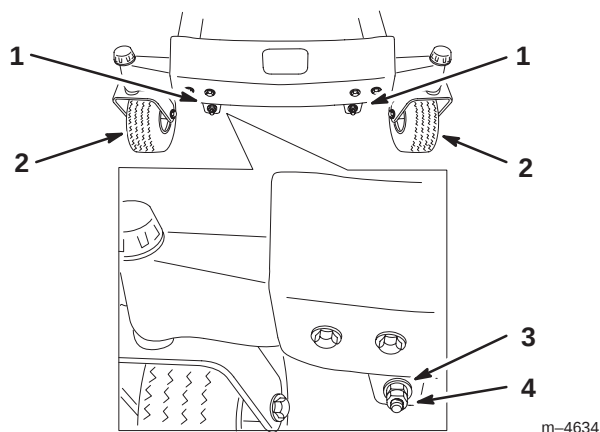
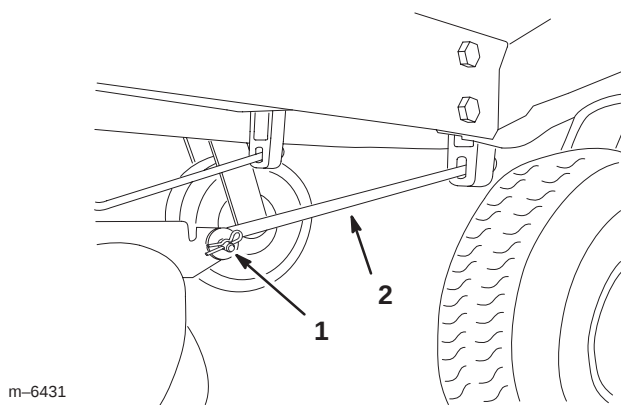

Figure 43
Figure 45
10. To adjust the front-to-rear blade slope, remove the locknuts and then rotate the adjustment nuts in the front of the mower (Fig. 43).
12. After adjusting both adjustment nuts evenly, check the front-to-rear slope again. Continue adjusting the nuts until the front blade tip is 1/16–5/16 inch (1.6–7.9 mm) lower than the rear blade tip (Fig. 43).
Note: After adjusting the adjustment nuts, make sure there is **no slack** in either support rod (Fig. 45). Tighten either one to remove the slack (Fig. 43).
4. Remove the hairpin cotter and clevis pin from the front support rod on each side of the mower.(Fig. 45).
7. Attach the front support rods to the tractor with the clevis pins and hairpin cottes (Fig. 45).